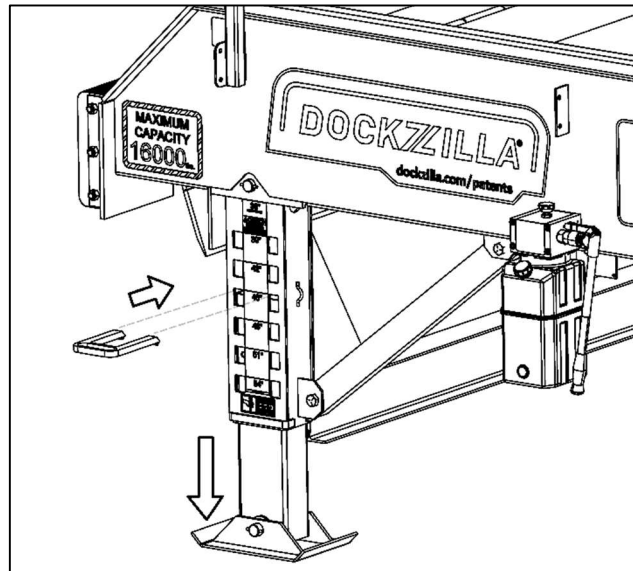

Figure 6. Adjusting Ramp Height
- a. Ensure adjustable legs have enough ground clearance. Adjust legs if needed (see Figure 6).
7. Once in position, adjust the legs to the desired height by stepping on the foot pad of the leg to pull it down, and insert the horseshoe pin to set the height (see Figure 6). Ensure legs are set to the same height on both sides.
2. Pump the handle until the ramp is a few inches above the desired height (Figure 6).